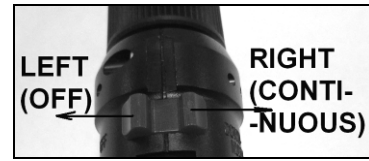

Fig2
**safety lock button**. Slide the **continuous flame switch** to right (Fig2) for a constant flame.
#### ● EXTINGUISHING (Fig2)
Disassemble the **soldering tip** and **hot blow head** with **metal sleeve** by rotating counterclockwise. Install the **metal sleeve** back to the unit. Operation will be the same as above for the soldering iron. (Fig2)
- 2.) Before refilling make sure that the **continuous flame Switch** at left (OFF) side. (Fig2)